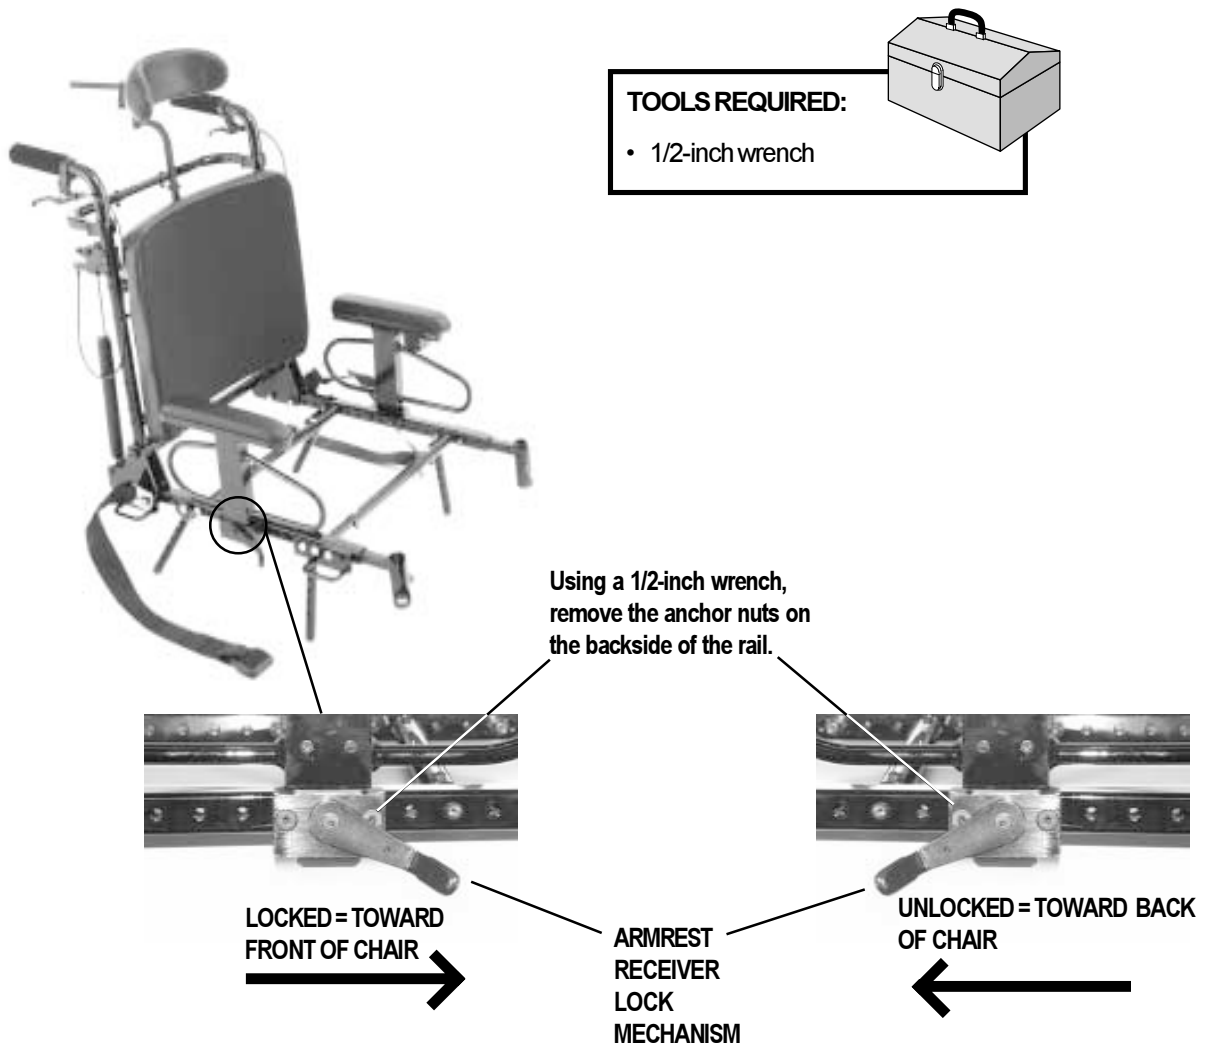

FIGURE 11. Armrest Positioning
1. Remove the armrest assembly by rotating the armrest receiver lock mechanism toward the back of the chair. Pull up on the armrest assembly to remove. See figure 11.
2. Using a 1/2-inch wrench, remove the armrest receiver lock mechanism anchor nuts (two) on the backside of the rail. See figure 11.